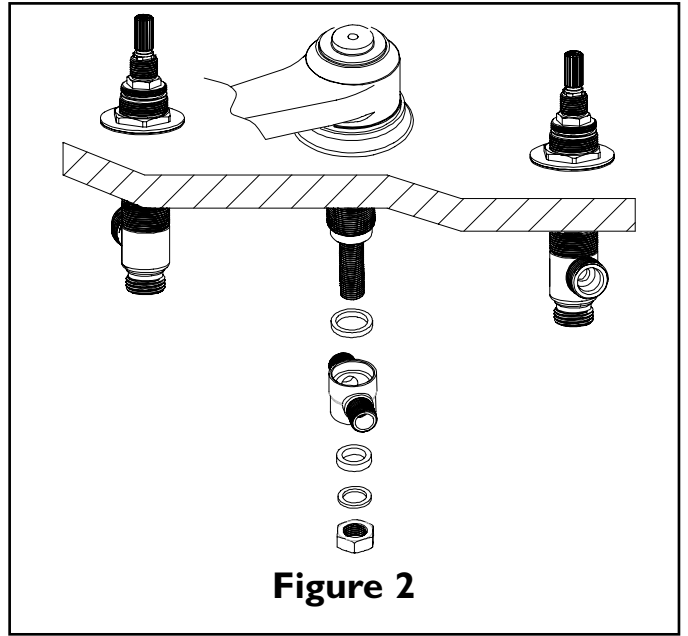

Figure 2
3. Place nylon washer into top of 4-way tee. Slide 4-way tee with nylon washer up against bottom of the spout shank. See Fig. 2
4. Insert rubber washer, then brass washer, onto threaded nipple and into base opening of 4-way tee. Secure with nut. See Fig. 2